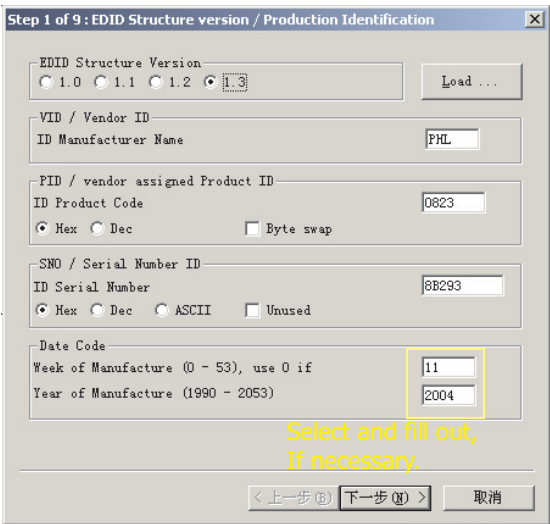

Fig. 27
1. Click (new function) icon from the tool bar, bring up Step 1 of 9 as shown in Fig. 27 .